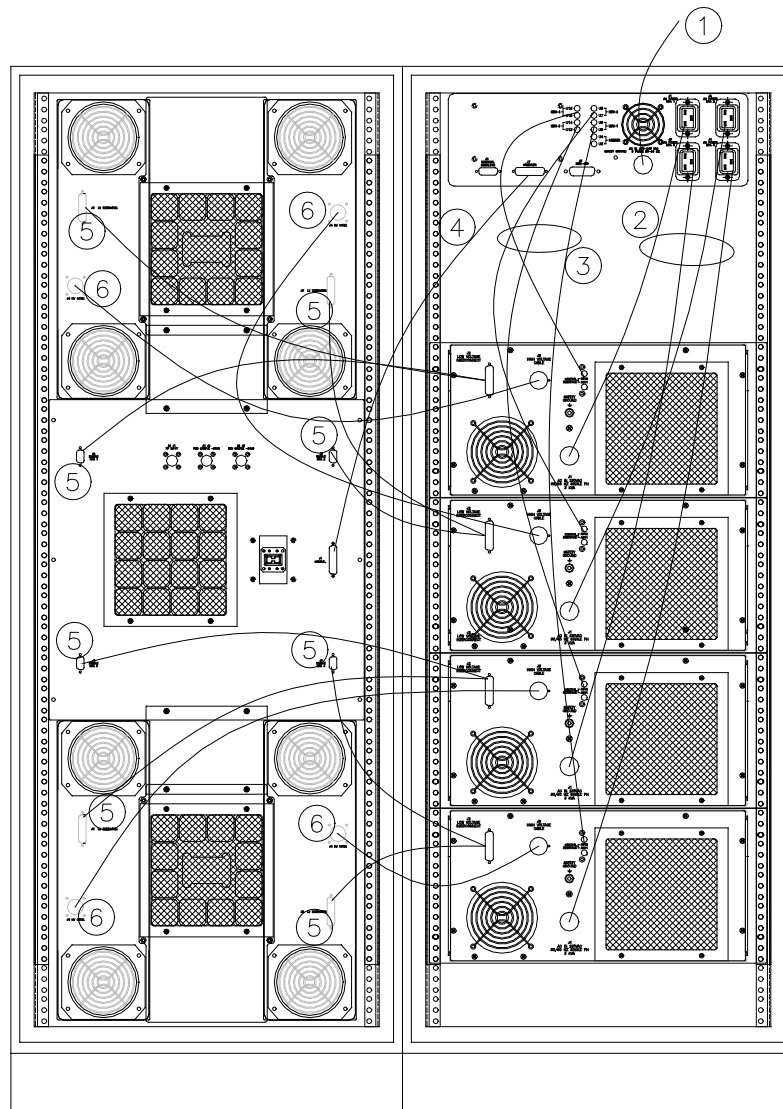

Figure 4-1. Interconnect Cabling
4. Reassemble in reverse order. Refer to Figure 4-1, **TWTA interconnect cabling** and Table 4-1 **Interconnect cable identification** to make sure the unit is properly reconnected.
3. Reassemble in reverse order. Refer to figure 4-1, **TWTA interconnect cabling** and Table 4-1 **Interconnect cable identification** to make sure the unit is properly reconnected, if necessary.